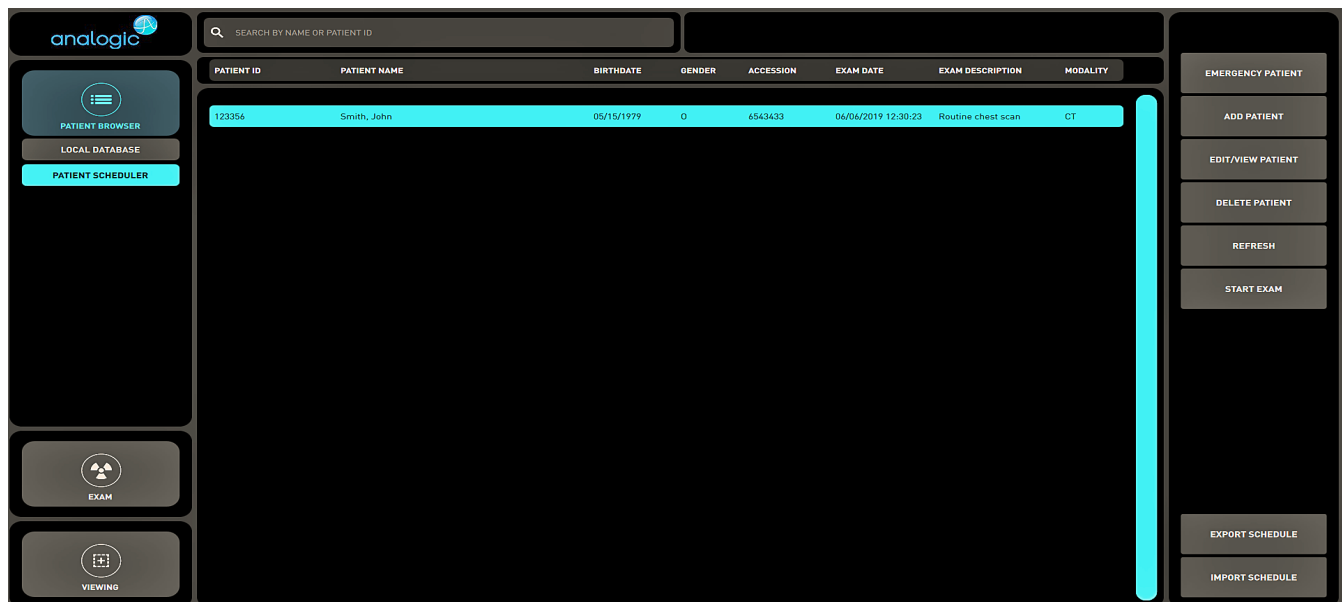

FIGURE 5.12 Deleting a Patient from the PATIENT SCHEDULER
1. Select the patient you want to delete from the PATIENT SCHEDULER list (FIGURE 5.12).